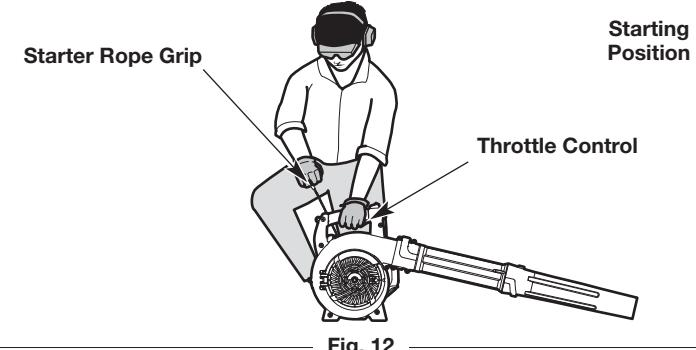

Fig. 12
**WARNING:** Avoid accidentally starting the unit. To avoid serious injury, the operator and the unit must be in a stable position when pulling the starter rope (Fig. 12).
3. Crouch in the starting position (Fig. 12).
5. Pull the starter rope with a controlled and steady motion **5 times** (Fig. 12).